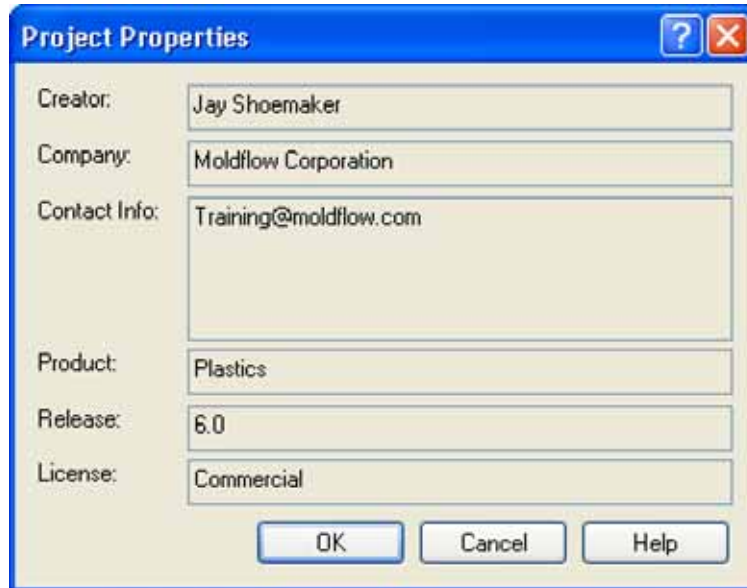

Figure 142: Project Properties
- This opens a dialog shown in Figure 142.